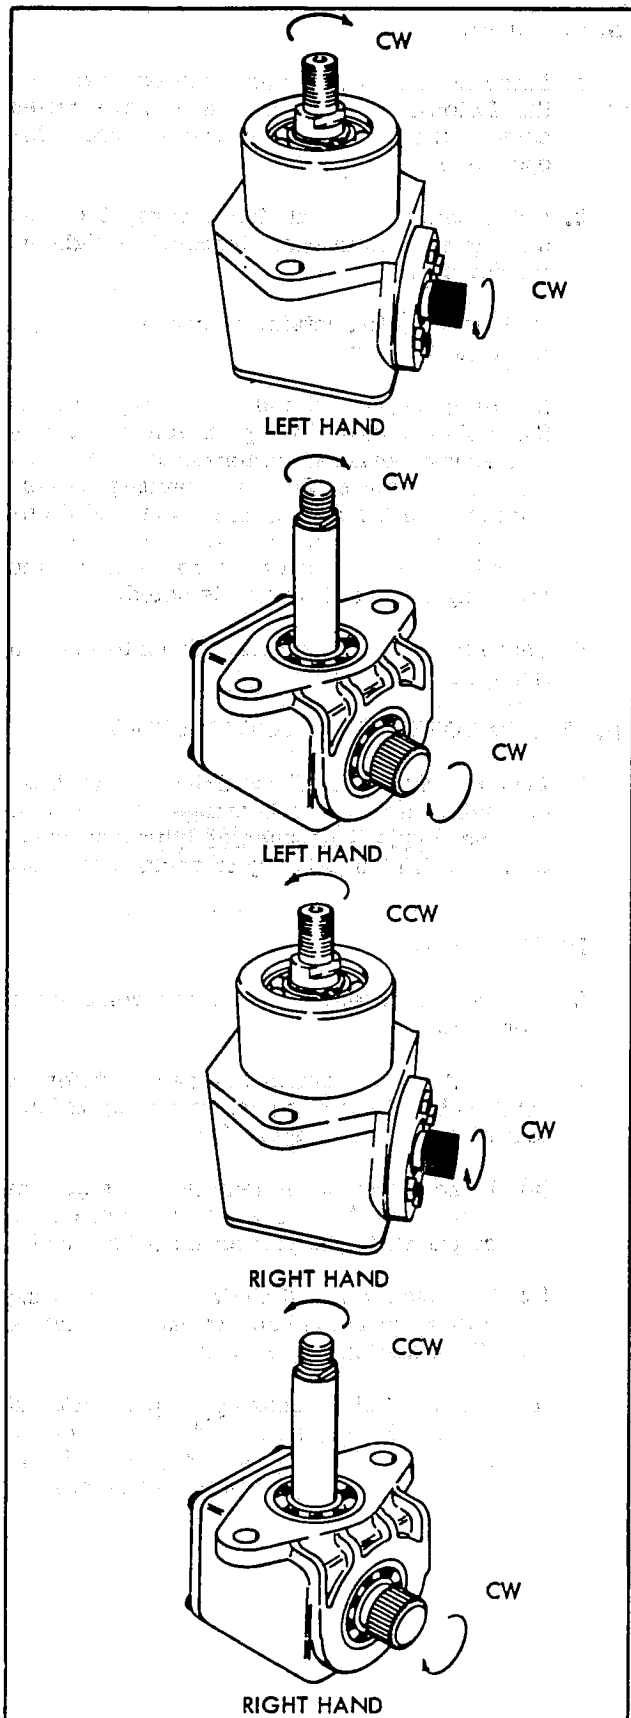
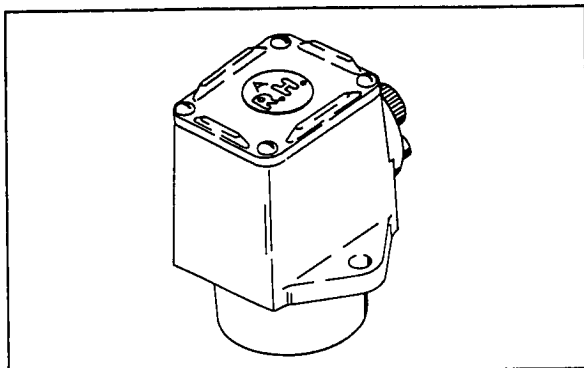
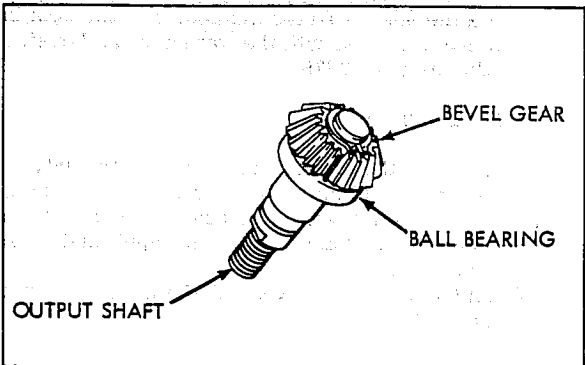

Figure 9-5 Right Angle Drive Movements
Figure 9-6 Top Cover
Figure 9-12 Output Shaft Removal
3. Different output shafts achieve a different rotation by mounting a gear at the top or bottom of the shaft. (Figure 9-5).
5. Remove the snap ring on the output shaft and tap it with a mallet on the outside end to drive it and the inner ball bearing (Figure 9-12) out of the housing. Remove the output end ball bearing by driving out from the inside.
6. Remove the input shaft from the ball bearing (Figure 9-12) with an arbor press. Always support the inner race when removing and replacing the input shaft into the ball bearing. Use tool 670185 to support the inner ball bearing race.
Assemble the unit in reverse of the disassembly. When building up the units it is important to install the correct input shaft (Figure 9-12) and identify it with the correct cover (Figure 9-6) if there is any identification on the cover, either R. H. or L. H. See Figure 9-5 to determine rotation. Use tools 28679, 670158, and 27569 to support bearings being pressed on shafts or into housing.